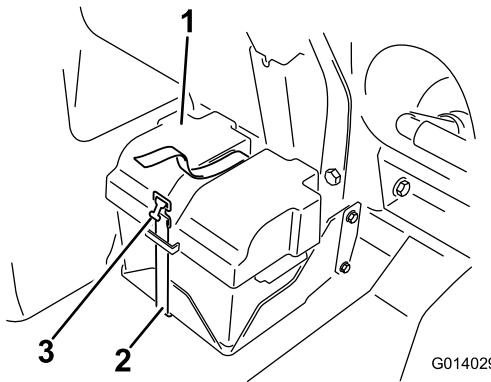

Figure 94
- Remove the battery cover and disconnect the negative (black) ground cable from the battery post (Figure 94).
4. Install the battery cover and secure it with the strap that you removed previously (Figure 94).